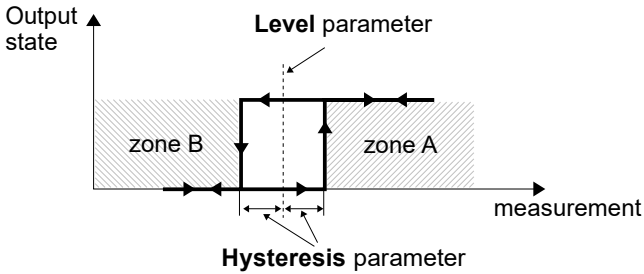
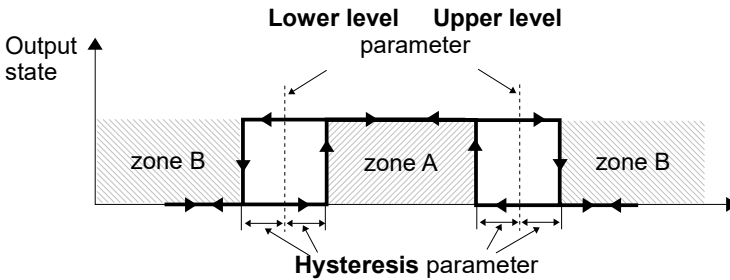

Fig. 7.87. One threshold control of the relay outputs
Fig. 7.88. Two threshold control of the relay outputs
- **Mode** - this parameter allows the user to select the method of operation of the output, the **Mode** parameter has the following options (see **Fig. 7.87** and **Fig. 7.88**):
### Levels parameter block (see **Fig. 7.87**, **Fig. 7.88** and **Fig. 7.89**)
- **Hysteresis** – by defining this parameter the user can move the level for changes in the output state (see **Fig. 7.87** and **Fig. 7.88**),